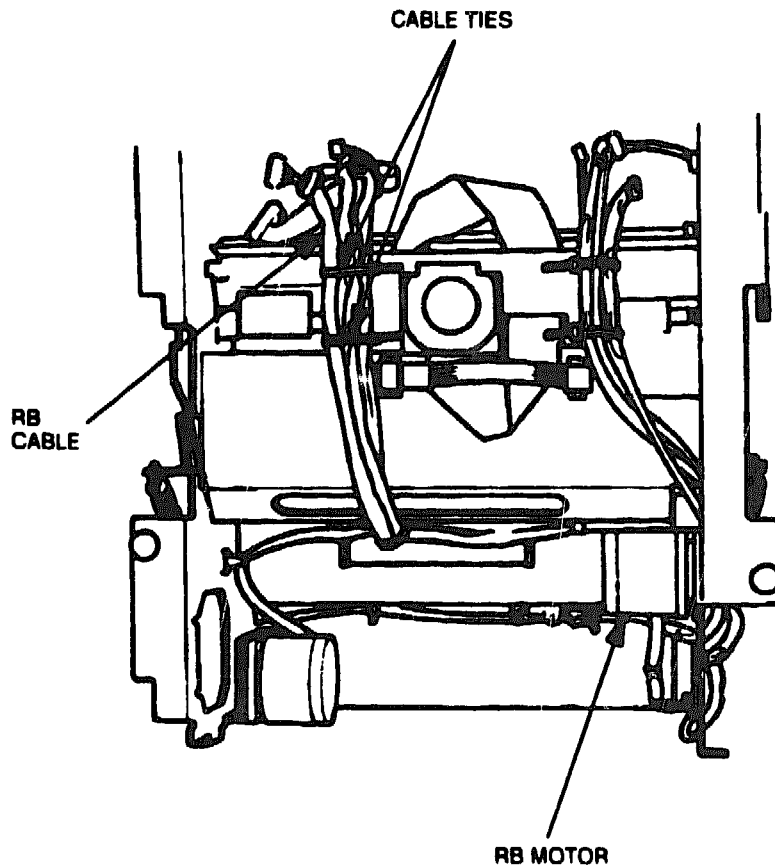

Figure 6-87 Lower Base Plate Cable Ties
4. Remove the cable from the cable ties on the lower base plate (see Figure 6-87).